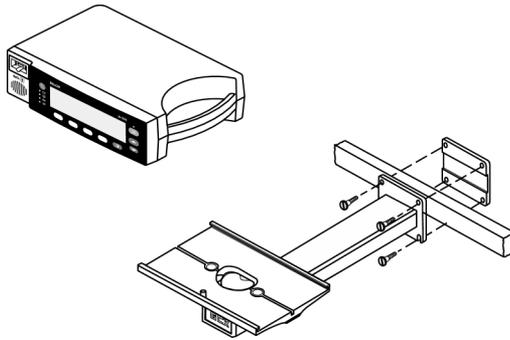

Figure 5: GCX Poly-mount (horizontal wall mount with rail adapter)
- GCX Poly-mount (horizontal wall mount with rail adapter). See Figure 5, page 15.
The horizontal wall mount with rail adapter attaches to the N-395 monitor GCX mounting plate as shown in Figure 5. For further instructions regarding connecting the horizontal wall mount with rail adapter, refer to the illustrated directions for use included with horizontal wall mount with rail adapter.